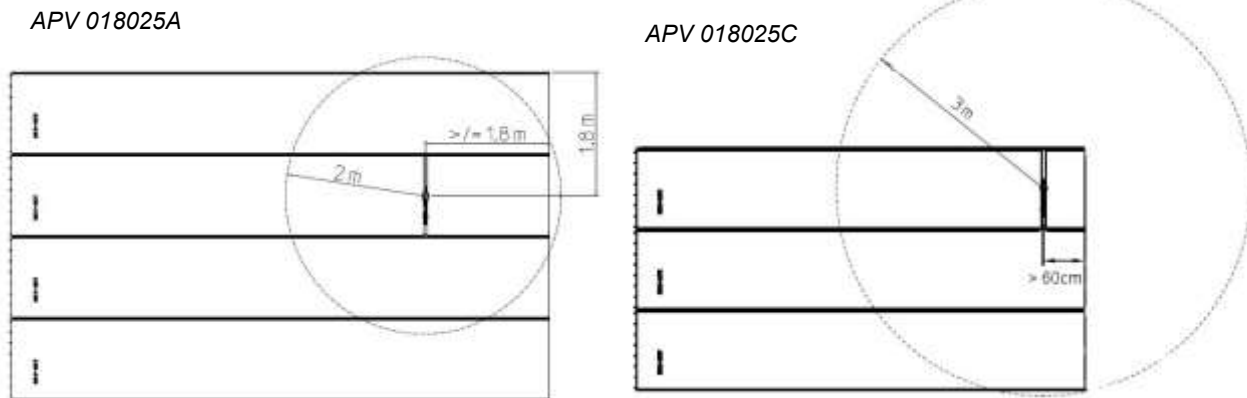

figure 2
- Move the anchor point according to figure 2.